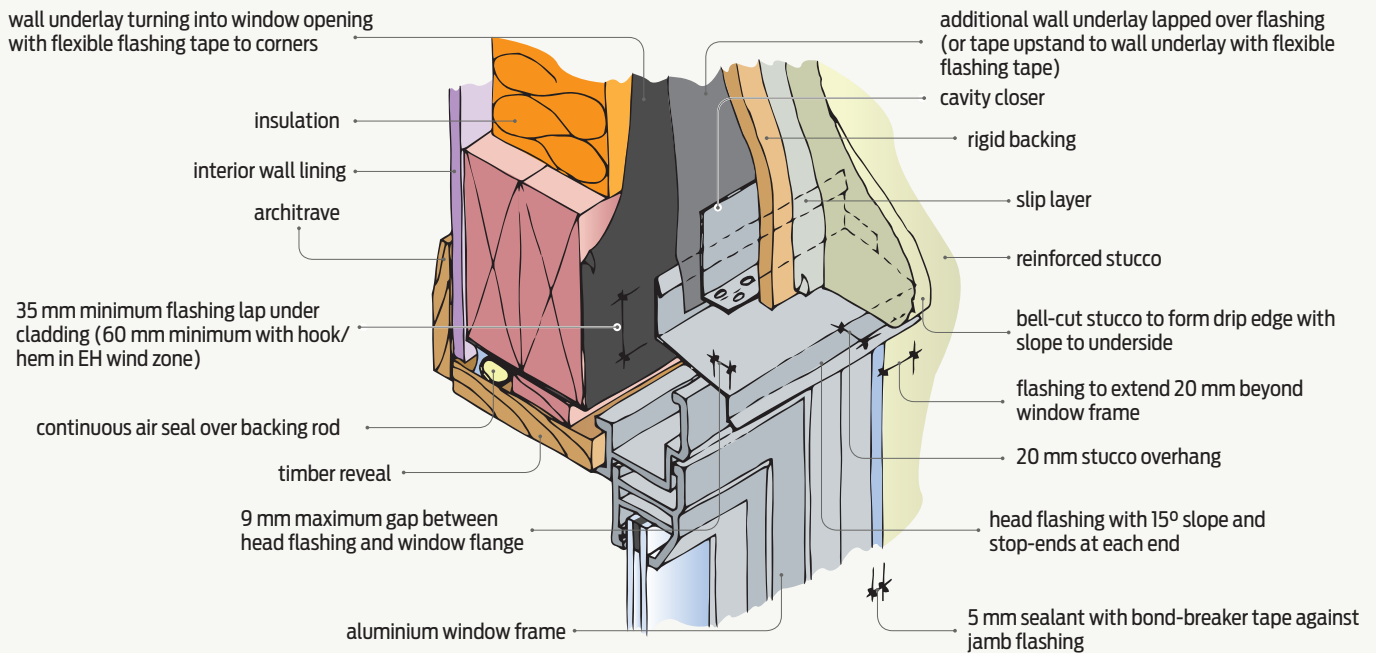

Figure 3 Option 2 – window head detail – stucco on rigid backing (based on E2/AS1 Figure 76 (a)).
- Option 2: Where the downturn and kick-out are located *forward* of the window flange – E2/AS1 has one example, Figure 76(a) for stucco cladding (Figure 3). While E2/AS1 outlines critical dimensions for head flashings, it does not give a dimension for a gap between the head flashing and the window head flange.
Selecting a flashing that keeps the downturn as close as possible to the window flange is considered prudent to address some of these concerns (Figure 3). Also, the head flashing needs to be in contact with the top edge of the window flange. Most extruded head flashings are fabricated in 5–6 mm width increments. It is possible, therefore, to select a width that will result in an overhang gap not exceeding 9 mm.